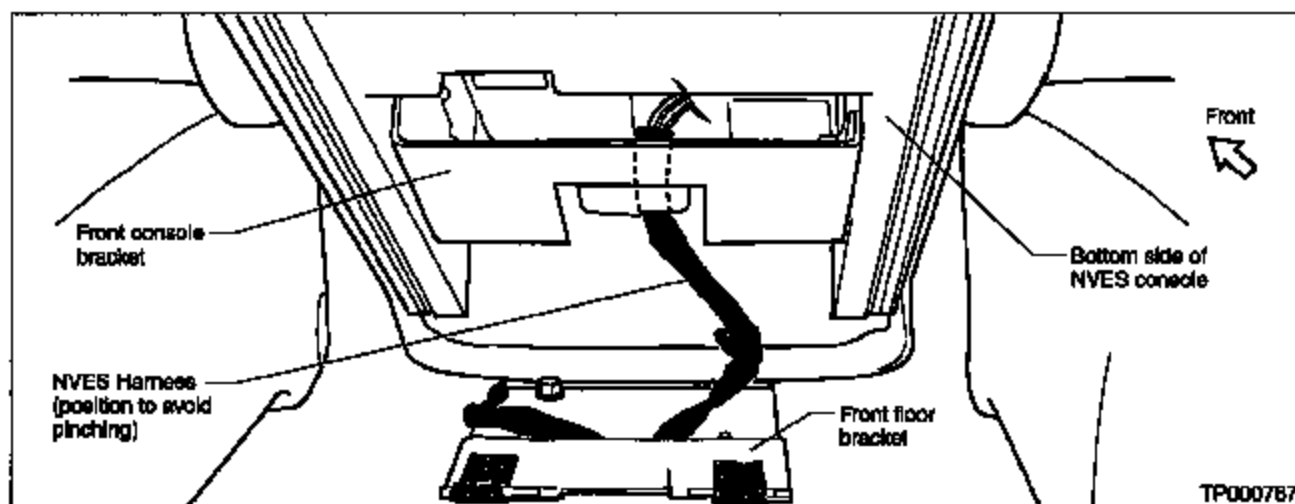

Figure 11
- A. Verify the wire harness (located under the front of the console) is correctly positioned before lowering the console (see Figure 11). Confirming the harness is properly positioned will prevent it from being pinched/damaged.